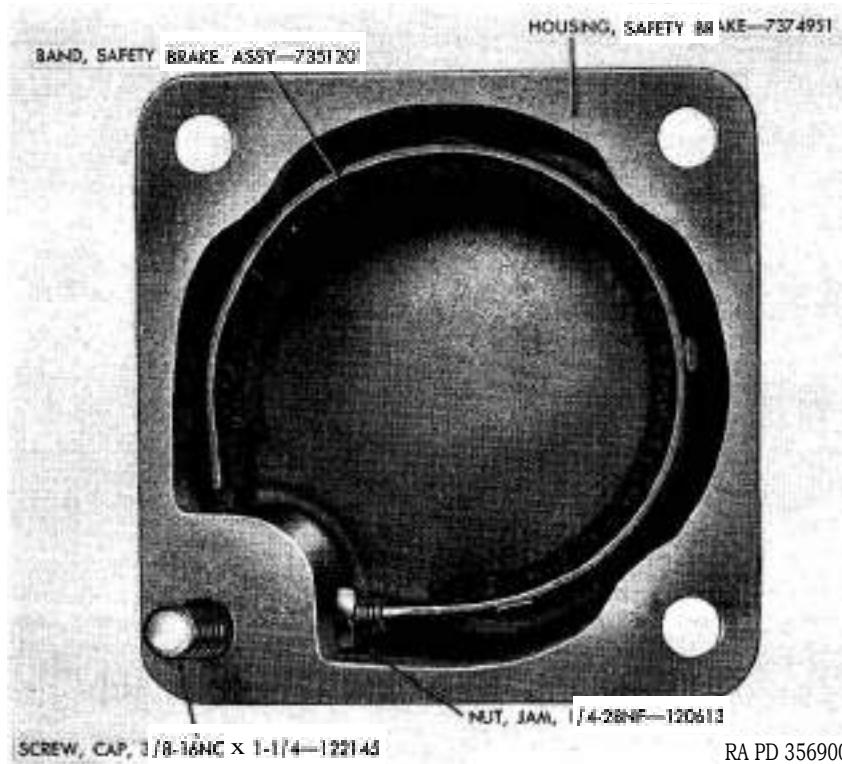

Figure 228. Safety brake band assembly in housing.
f. Install Safety Brake Band Assembly in Safety Brake Housing (fig. 228).
- (1) Install a $\frac{3}{8}$ -inch lock washer and $\frac{3}{8}$ -16NC x $1\frac{1}{4}$ cap screw in safety brake housing adjacent to holes that are drilled for the threaded ends of the safety brake band assembly, as this screw cannot be installed after the safety brake band assembly is in the housing.
- (2) Install $\frac{1}{4}$ -28NF jam nut on short threaded end of safety
brake band assembly. Position safety brake band assembly in safety brake housing as illustrated in figure 228 (short threaded end of safety brake band assembly at bottom). Install $\frac{1}{4}$ -~~20NF~~ jam nut on outside end of short threaded end of safety brake band assembly. Position jam nuts so that threaded end of safety brake band assembly will be approximately flush with outside nut, when nut is tightened.